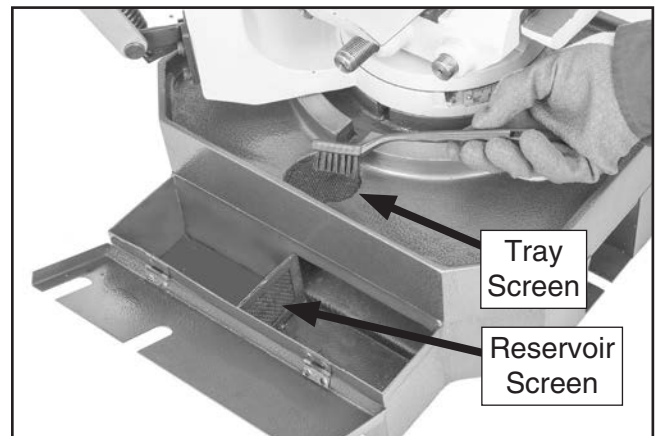

Figure 44. Cleaning screens and reservoir.
5. Thoroughly clean tray screen, reservoir screen, and inside of coolant reservoir (see **Figure 44**).